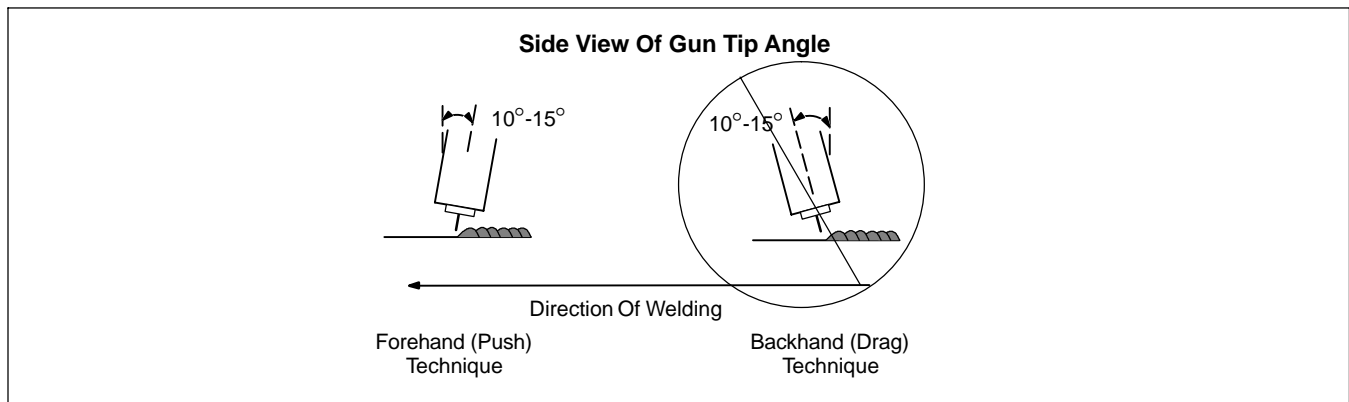

Figure 5-1. Gun Tip Angle
- For MIG welding aluminum you need to use a 10 to 15 degree push travel angle (tip and nozzle pointing in the direction of travel). See Figure 5-1.